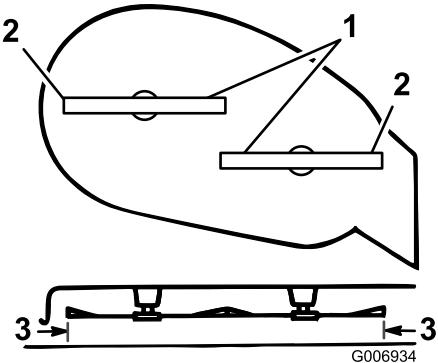

Figure 36
5. Carefully rotate the blades side to side (Figure 36).
6. Measure between the outside cutting edges and the flat surface (Figure 36). If both measurements are not within $3/16$ inch (5 mm), adjust them; continue this procedure.